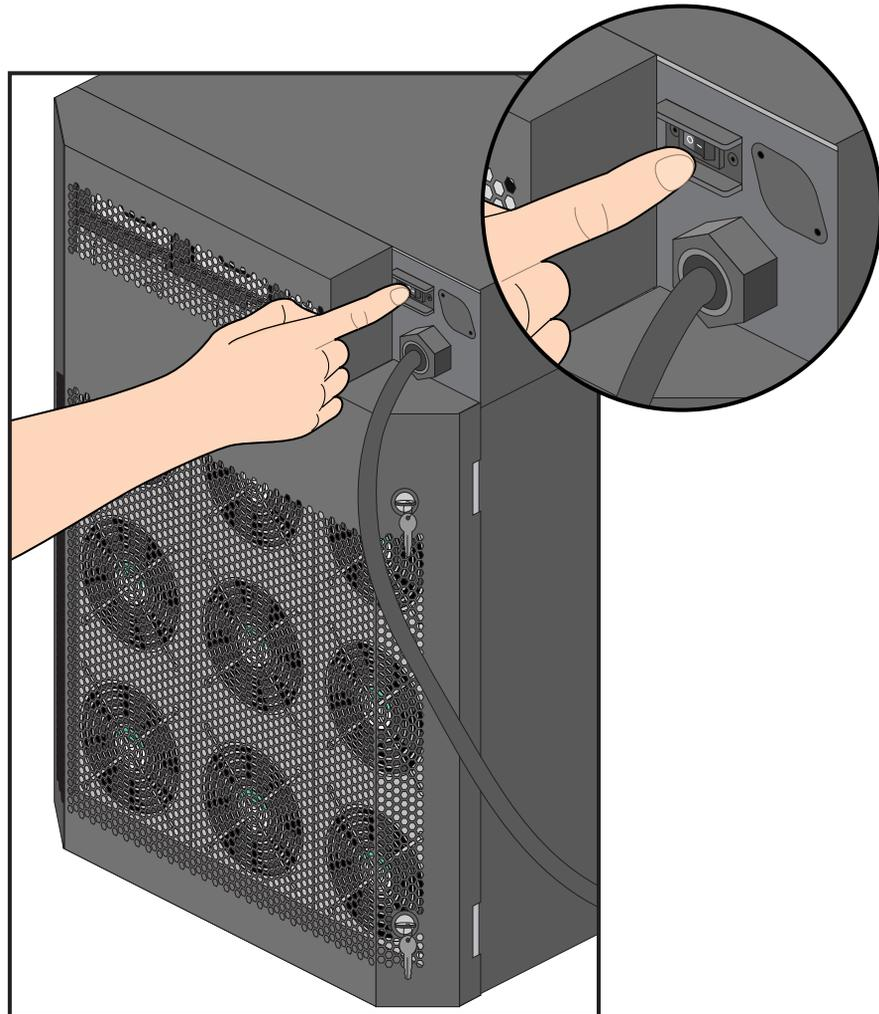

Figure 2-2 Enable Enclosure Power Switch Location
Finally, press the enable power switch to (1) on the rear of the enclosure, see Figure 2-2 on page 15 for an example.